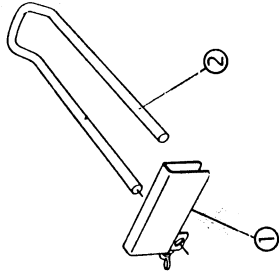

Fig. 3
1. Slide the End Stop ① onto the back rail ② of the Extension Support. (Fig. 3)
1. The Fig. 3 and 4 only show the installation of the right extension support. Repeat these procedures for the left extension support.